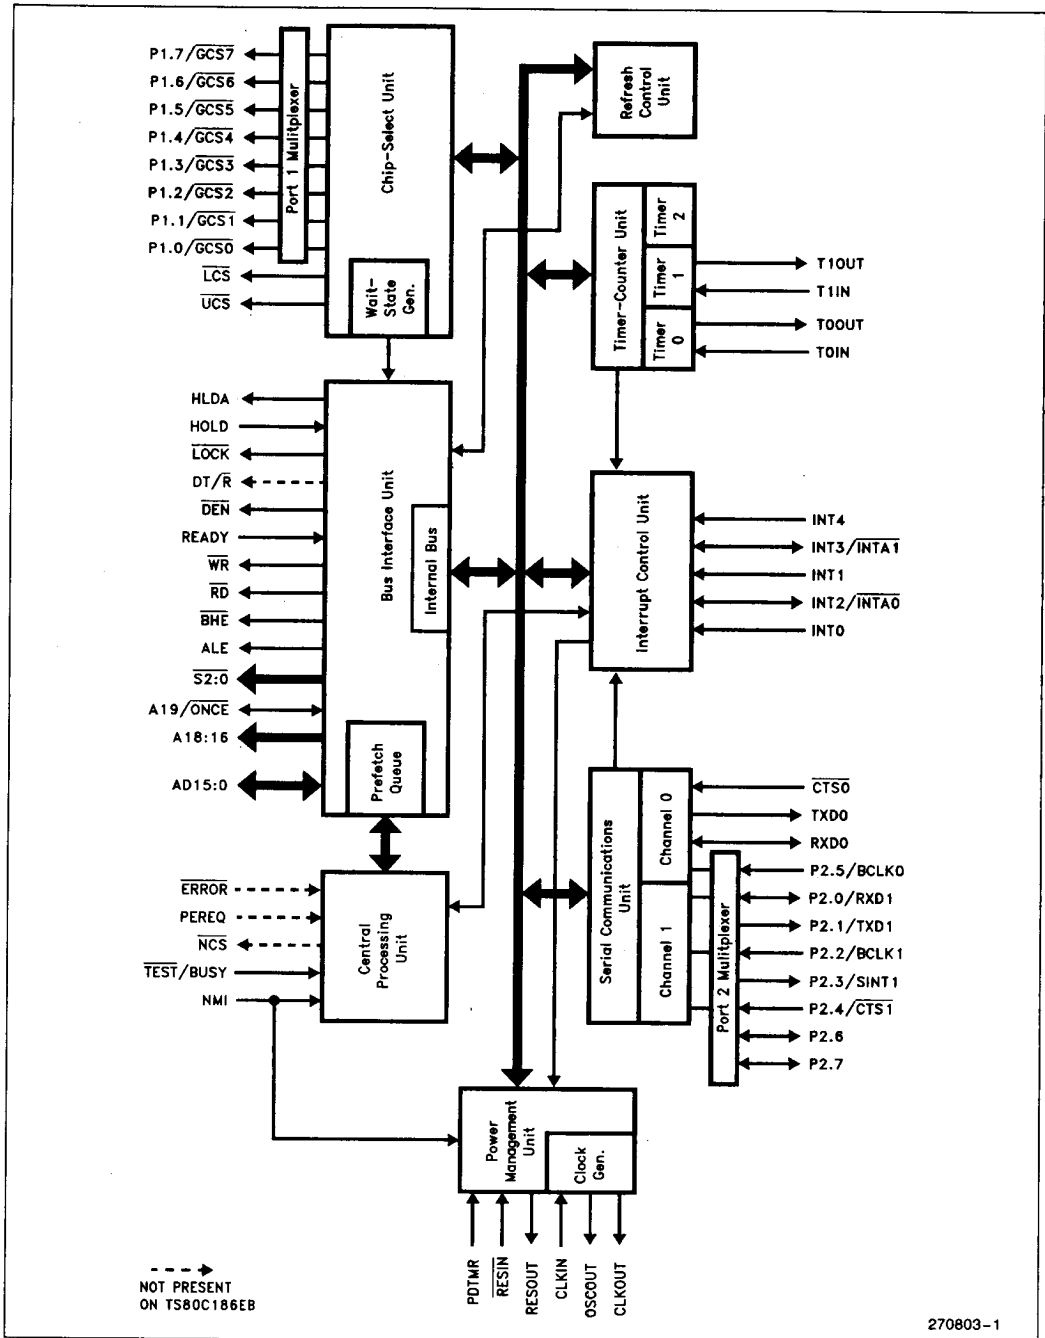

Figure 1. 80C186EB Block Diagram
Figure 1 shows a block diagram of the 80C186EB. The Execution Unit (EU) is an enhanced 8086 CPU core that includes: dedicated hardware to speed up effective address calculations, enhance execution speed for multiple-bit shift and rotate instructions and for multiply and divide instructions, string move instructions that operate at full bus bandwidth, ten new instruction, and full static operation. The Bus Interface Unit (BIU) is the same as that found on the original 186 family products, except the queue-status mode has been deleted and buffer interface control has been changed to ease system design timings. An independent internal bus is used to allow communication between the BIU and internal peripherals.